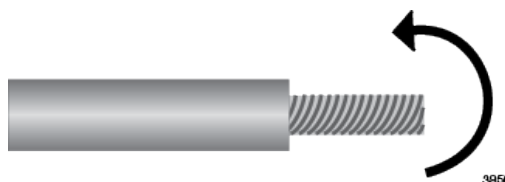

Figure 9. Ripping Wire Strands
- ❑ When using stranded wire, always tightly wrap the wire with your fingertips. This is to prevent loose strands from touching adjacent wires and causing electrical shorts. See Figure 9.